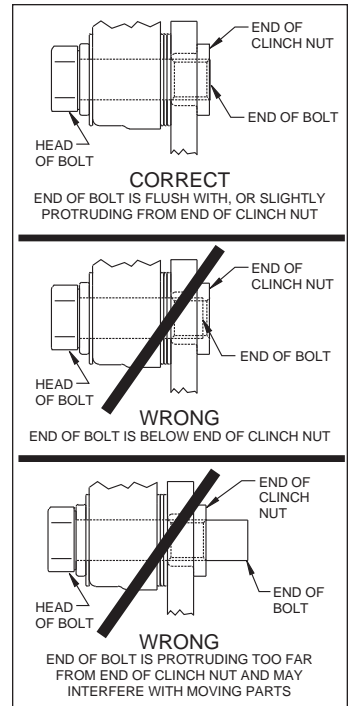

Figure 4. Clinch Nut Engagement Diagram
CAUTION: All mounting bolts must fully engage insert nuts, Figure 4. Be sure to check that all bolts are either flush or protruding through flanged side of insert nut after shimming. Rear hole refers to the part of the spindle that would be facing the back of the vehicle, front is facing the front of the vehicle.
- Adjust by adding or subtracting shims (2) between the bracket and the spindle. Always use the same amount of shims on each of the two mounting bolts.
- NOTE:** The end of each bolt must be flush with or slightly protruding from the head of the clinch nut, as shown in Figure 4. If necessary place spare shims (2) between washer (19) and caliper mounting ear to achieve the proper clinch nut engagement. Once the caliper alignment and clinch nut engagement is correct, remove the ProSpindle and steering arm bolts one at a time, apply red *Loctite*[®] 271 to the threads, and torque to 55 ft-lb. Remove the caliper mount bolts one at a time, apply red *Loctite*[®] 271 to the threads, and torque to 40 ft-lb.
- Install the disc brake pads (21) into the caliper (18), with the friction material facing the rotor (8), and secure in place using the pad clip retainer (22), Photo 10.